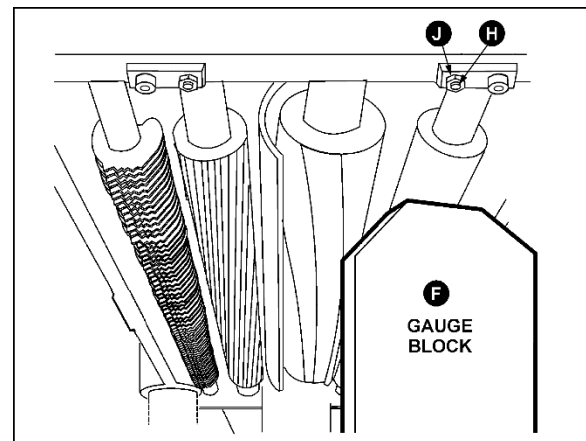

Figure 8-8
6. Remove the feeler gauge and move the gauge block under one end of the outfeed roller, as shown in Figure 8-8. The bottom of the outfeed roller should just touch the top of the gauge block. If an adjustment to the outfeed roller is necessary, loosen the lock nut (J) and turn screw (H) until outfeed roller just contacts the gauge block. Then tighten lock nut (J).